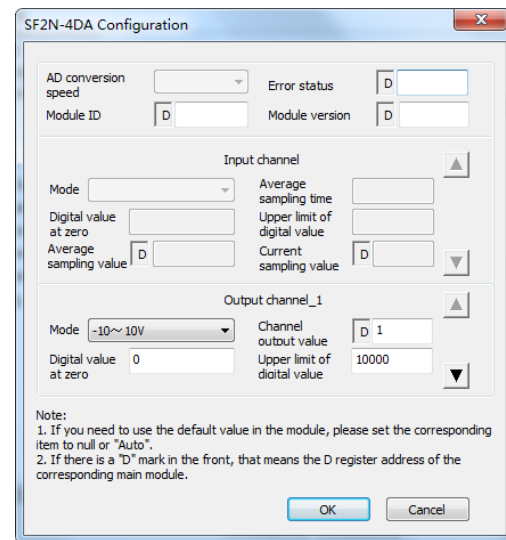

Figure 4-2 Changing CH1 characteristic
7. BFM#4094: module software version information, displayed automatically as **Module Version** in **SF2N-4DA Configuration** dialogue box of the host software, as shown in Figure 4-2.
The channel characteristic setting is shown in figures 4-2 ~ 4-4. For details, see SF2N Series PLC Programming Manual.